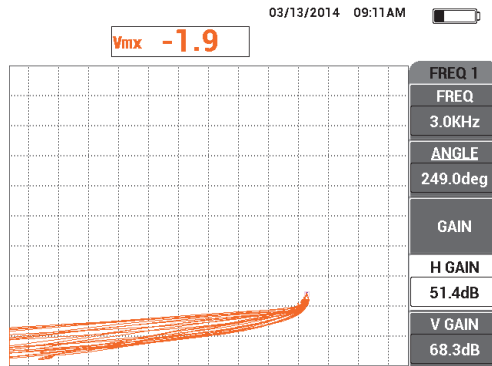

Figure 5-109 Adjusting the H GAIN value
17. Tilt the probe at an arbitrary angle on position 1, observe the lift-off signal from the **MIX** channel, and then decrease the **H GAIN** (D key) until the lift-off signal from the **MIX** channel is oriented toward the left (see Figure 5-109 on page 204).